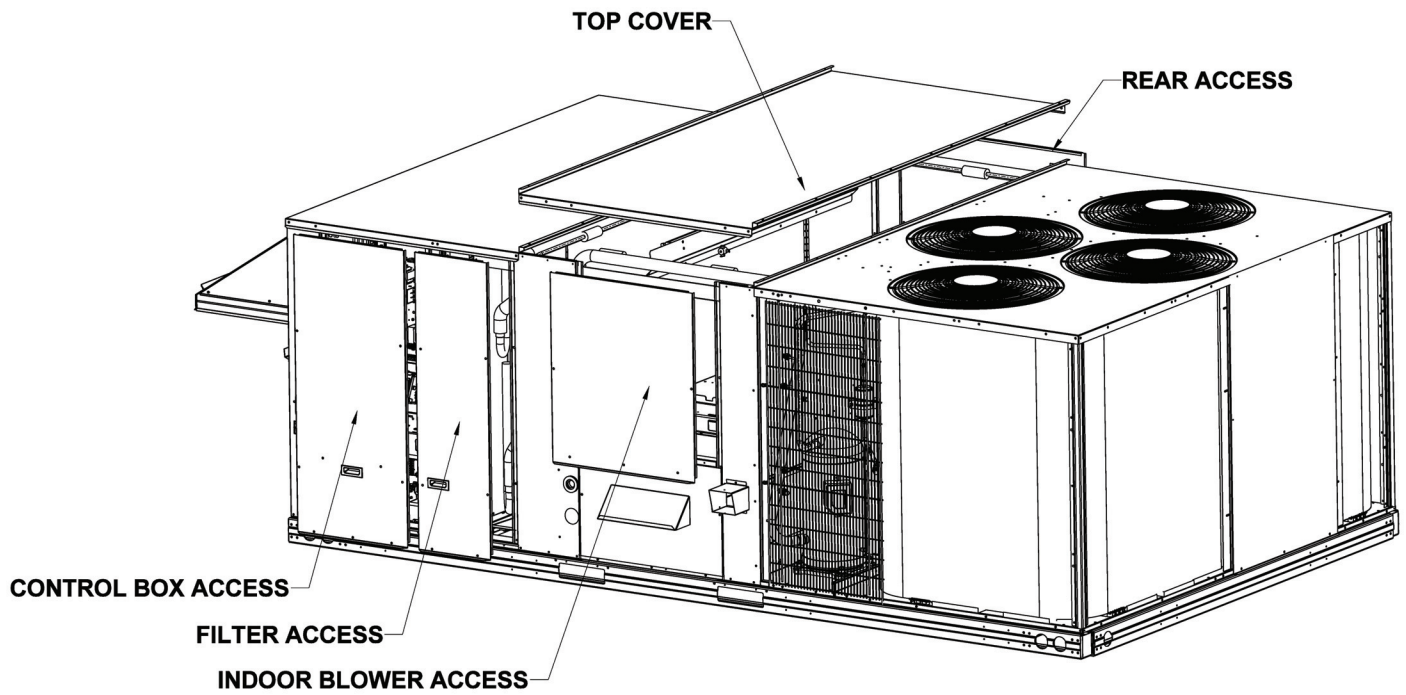

Fig. 11 — Access Locations
7. Place Warning (on each access panels for two switch units), UVC Access and UVC Bulb Replacement Labels in the hinged door or access panel for indoor coil section. (See Fig. 11.)
8. Place UVC Wiring Diagram label into control box cover. (See Fig. 11.)
1. Locate the Access Panel/Hinged Door and Rear Access for the Indoor Blower Section and Top Cover to remove/open correspondingly. (See Fig. 11.)